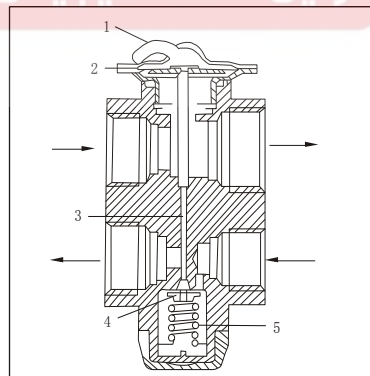

Fig. 9-6 Structure of Expansion Valve
#### (2) Structure of expansion valve: structure of expansion valve is shown in Fig. 9-6.